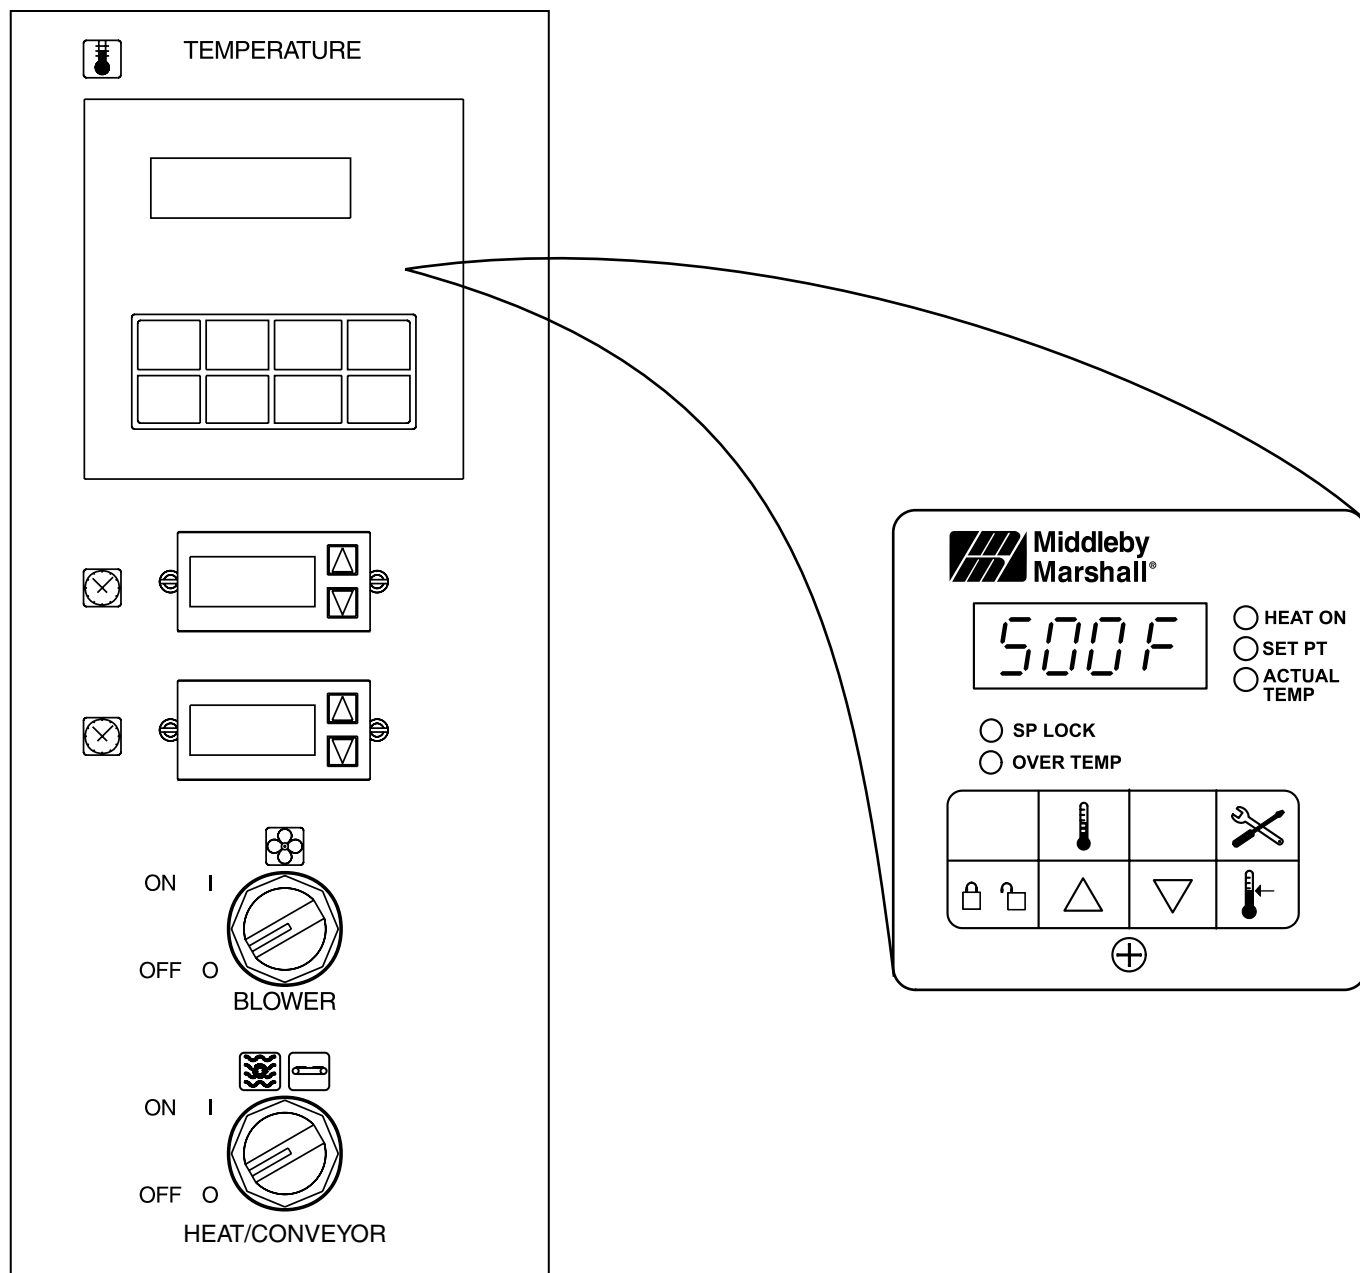

Figure 3-6. Control Panel
1. Turn the BLOWER switch (Figure 3-6) to the "ON" or "I" position. This starts the main blower fan and the cooling fans. The blower circulates air through the air fingers and must stay on during the cooking or baking process.
2. Check to see if the cooling fans (see Figure 1-8) are operating when the blower switch (see Figure 3-6) is turned "ON" or "I". The cooling fans cool the control components and blower motor. The cooling fans, located at the rear of the oven blows air into and through the cabinet. Air is exhausted through the front of the cabinet and also out the front of the oven. Refer to Daily Maintenance Section for fan intake checking procedure.
3. Turn the HEAT/CONVEYOR switch (Figure 3-6) to the "ON" or "I" position. This starts the conveyor belt moving through the oven. Set the conveyor speed for the desired baking time. Refer to the following Procedures E, F and G.
5. Turn the HEAT/CONVEYOR switch (Figure 3-6) to the "ON" or "I" position. Wait for the "Heat ON" light to turn on.